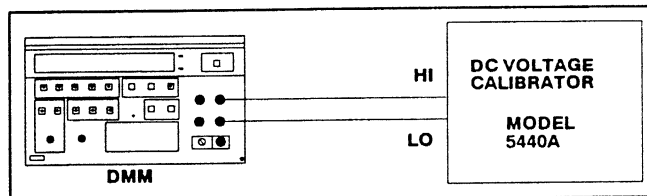

Fig. 2-1. Connections for DC Volts Check.
- b. Connect the DMM to the DC voltage calibrator as shown in Fig. 2-1.